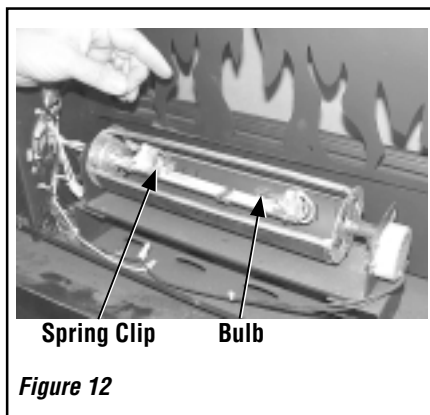

Figure 12
8. Remove spring clip (see **Figure 12**). Hold socket and pull out old bulb.